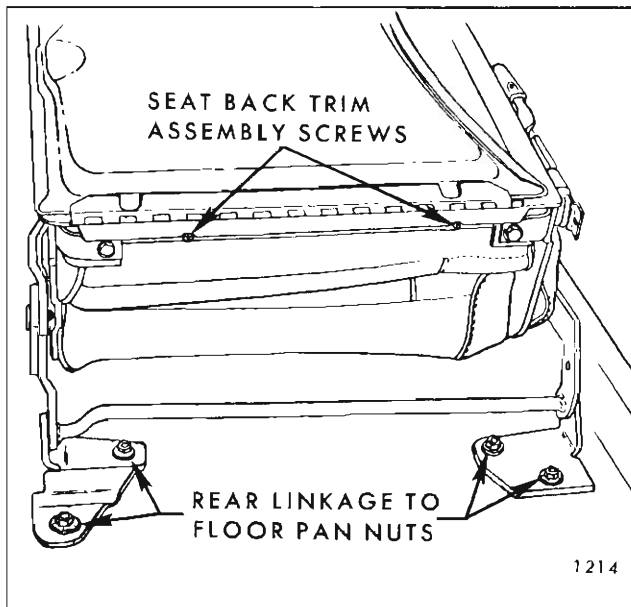

Fig. 2H27—Folding Second Seat Rear Linkage
2. Remove hog rings and detach outboard rear portion of trim sufficiently to remove three screws securing seat outer link to cushion frame (Fig. 2H29).
3. Remove three screws securing seat inner link to cushion frame (Fig. 2H30); then remove seat cushion and frame assembly from linkage. If required, remove cushion front and rear floor pan linkage.